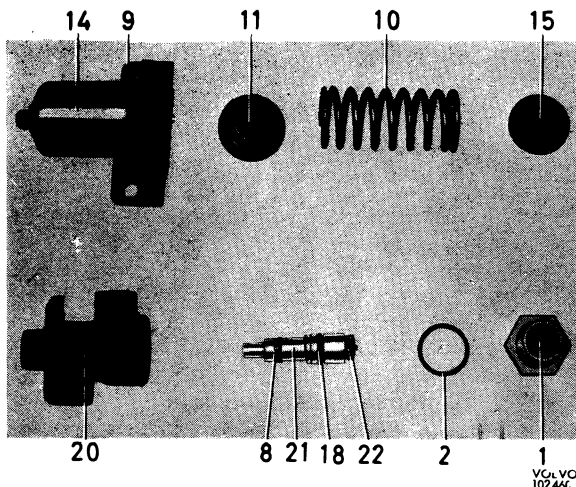

Fig. 5-59. Brake valve dismantled
2. Screw out the plug (1) and press out the plunger complete, see Fig. 5-59.